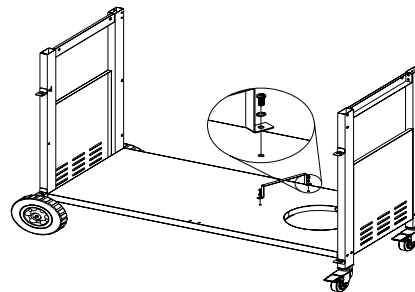

Figure 4
4. **Attach gas tank support** to bottom panel using (2) 1/4 x 3/8" Phillips head screws and (2) 1/4" lock washers. (Fig.4)